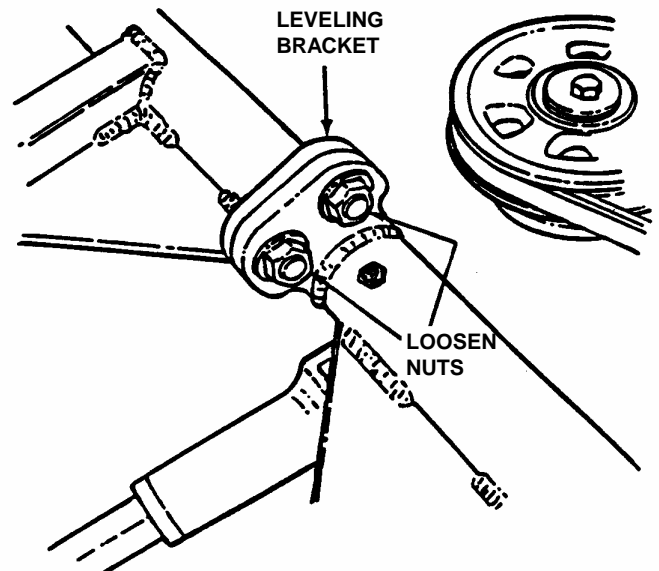

FIGURE 4.2
4. Loosen leveling bracket at center rear deck support. See Figure 4.2. This allows the lift arm to settle down into hitch brackets.